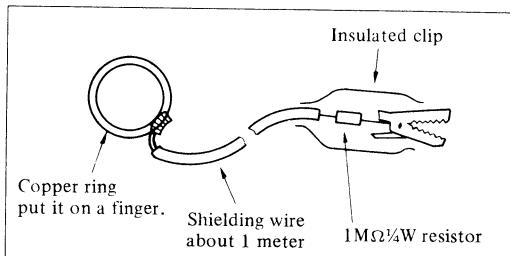

Fig. 1
- (1) Keep all terminals of a device in the conductive mat during transportation and storage to keep them at the same potential. A conductive mat called "MOSPAK" is commercially available. Unless otherwise specially stated, all HITACHI IC memories will be shipped in our conductive mats. Store them as they are.
- (2) When handling by hand IC memories for inspection or connection, his finger must be grounded as shown in Fig. 1. Do not forget to insert a $1\text{M}\Omega\frac{1}{4}\text{W}$ resistor to protect him against an electric shock.